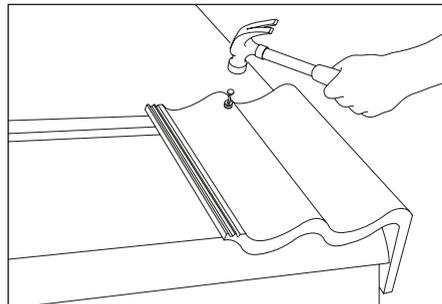

Fig. 4 – Mechanically fix verge unit
- 11 Drive aluminium nail with spacer unit assembly, through cloak verge nail hole, leaving a degree of free play (Fig. 4).